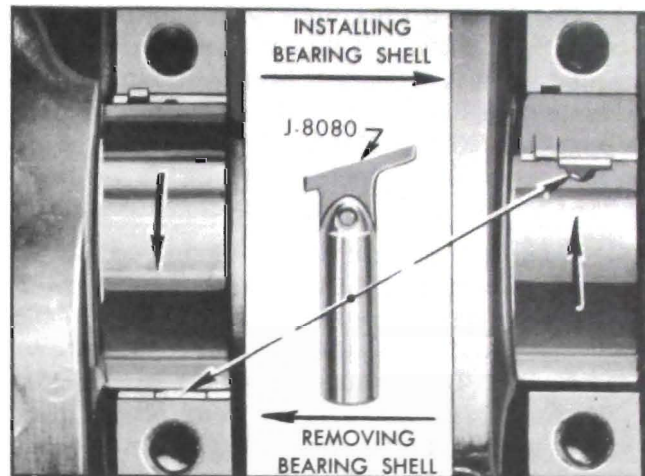

Figure 2-41—Removing and Installing Crankshaft Bearing Upper Shell
2. Remove upper bearing shell by inserting Bearing Shell Remover and Installer J-8080 in oil hole in crankshaft, then slowly turning crankshaft so that the tool rotates the shell out of place by pushing against the end without the tang. See Figure 2-41. CAUTION: When turning crankshaft with rear bearing cap removed hold oil seal to prevent it from rotating out of position in crankcase.